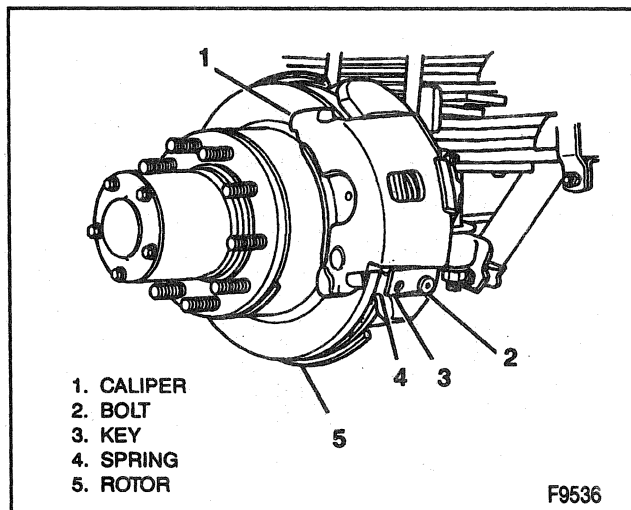

Figure 4—Disc Brake Assembly
8. Bolt (2) (Figure 4).
9. Support key (3) and spring (4) (Figure 4).
10. Caliper assembly (1) (Figure 4).
Install or Connect (Figures 4 and 6)
2. Caliper assembly (1) (Figure 4).
3. Spring (4) and support key (3) (Figure 4).
4. Bolt (2) (Figure 4).